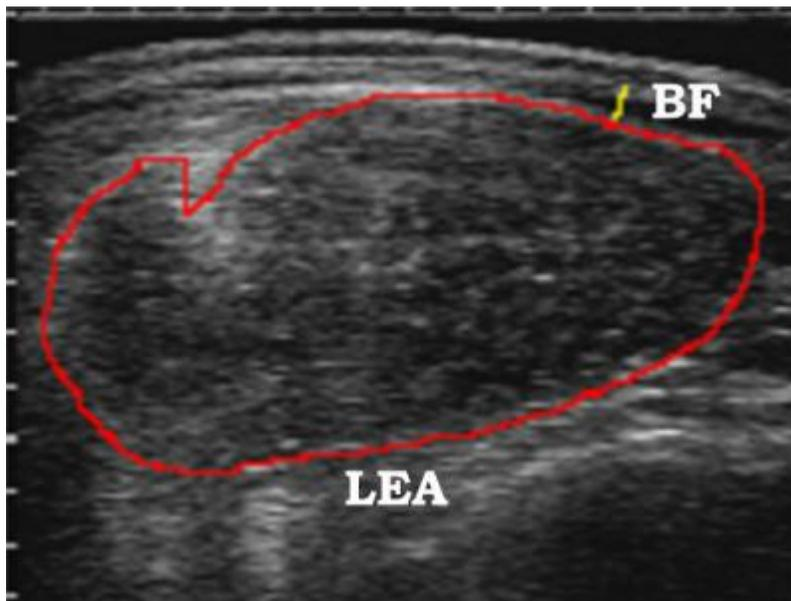

Figure 1
1) and longissimus dorsi area, which is the LEA, (Figure 1) are taken between the 12th and 13th ribs on each animal.